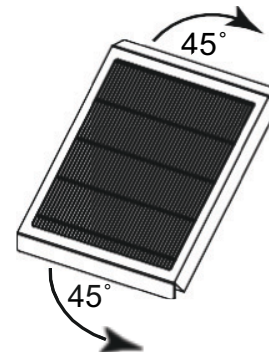

Fig. 27 – Bend Flaps to 45°
14. Bend the two MERV13 flaps down to form a 45-degree angle (Fig. 27).